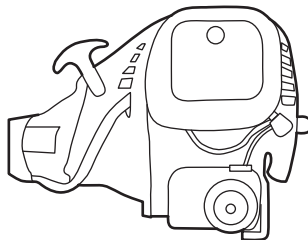

Fig. 16d
- d). If the engine is warm, move the choke lever (A3) to the “OPEN” position , do not press the primer. (See Fig. 16d)